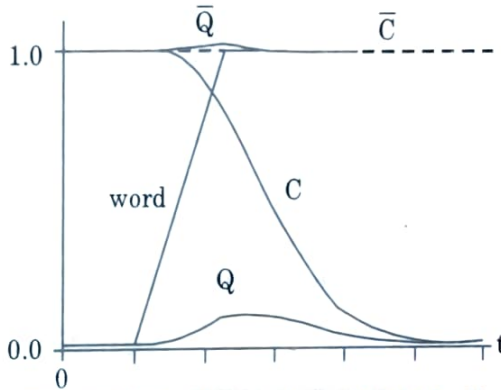

Fig. 4.4.2. Read operation of SRAM cell.
5. Waveforms for the read operation are shown in Fig. 4.4.2 as 0 is read onto C .